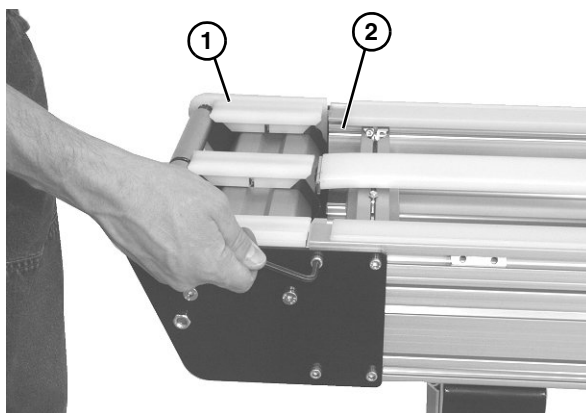

Figure 53
*When reinstalling the idler spindle tail assembly, the idler terminal assembly (**Figure 53, item 1**) should be flush with the conveyor frame (**Figure 53, item 2**).*